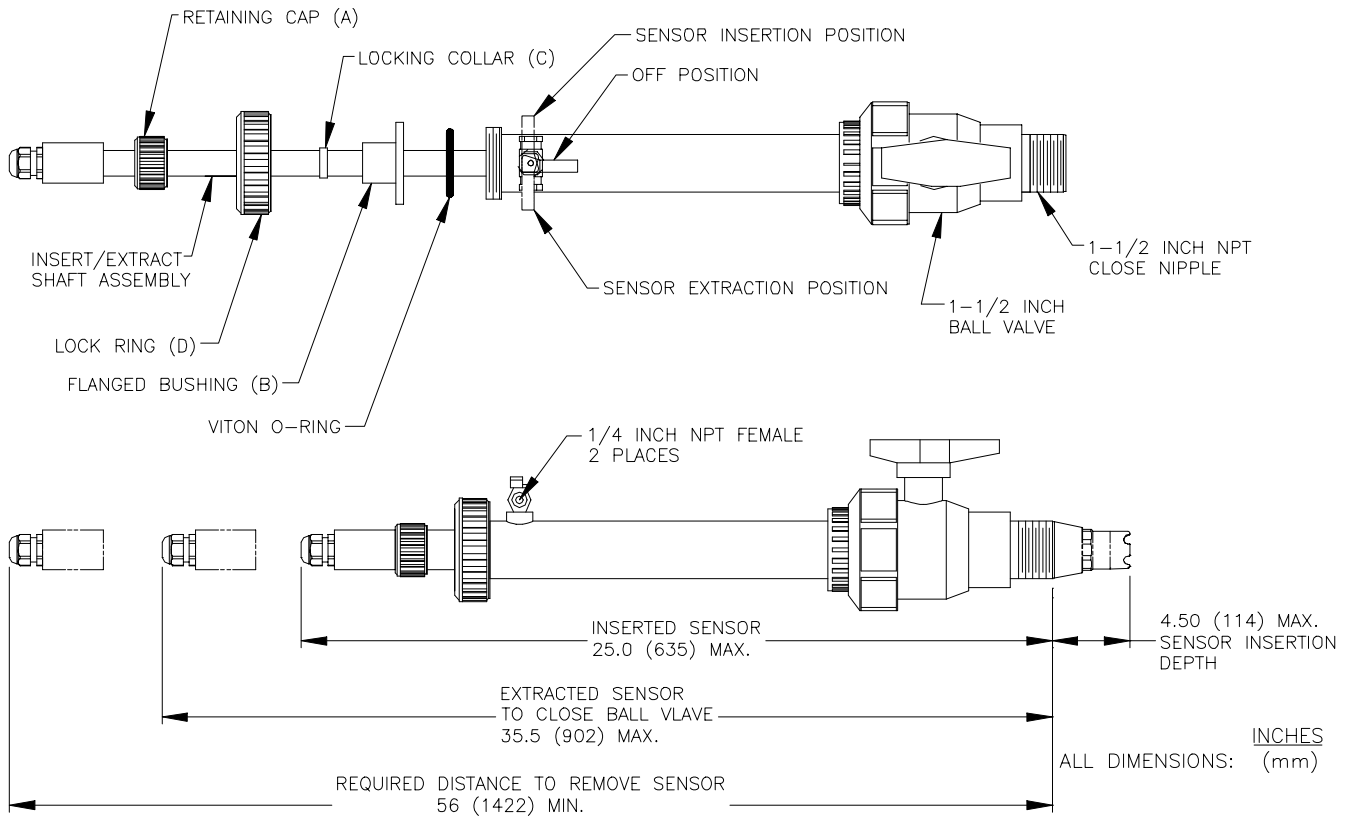

FIGURE 2-10
1. Unscrew the lock ring (item D, Figure 2-10) to remove the insert/extract pipe assembly from the assembled insertion hardware.
The sensor insertion depth is the distance the sensor salt bridge extends beyond the threaded close nipple of the ball valve assembly as shown in Figure 2-10. It is factory set at the maximum distance of 4.5 inches (114 mm). If the factory-set insertion depth is satisfactory for your application, disregard the following procedure, and mount the ball valve assembly into the non-pressurized process pipe/vessel. If you need to reduce the insertion depth, carefully determine
5. With the Viton O-ring properly seated in its groove, tighten the lock ring (item D, Figure 2-10) to secure the shaft assembly to the ball valve hardware.
EXTRACTING A SENSOR FROM A PRESSURIZED PROCESS PIPE OR VESSEL MAY BE DANGEROUS. DO NOT STAND DIRECTLY BEHIND THE INSERTION ASSEMBLY WHEN REMOVING THE RETAINING CAP (ITEM A, FIGURE 2-10) TO EXTRACT THE SENSOR. IT IS RECOMMENDED TO REDUCE THE PROCESS PRESSURE TO BELOW 10 PSI BEFORE EXTRACTING THE SENSOR. IF THIS IS NOT POSSIBLE, USE EXTREME CAUTION. AT HIGHER PRESSURES, THE INSERT/EXTRACT SHAFT ASSEMBLY MAY TRAVEL RAPIDLY TO ITS MAXIMUM OUTWARD POSITION, POTENTIALLY INJURING ANYONE IN ITS PATH.